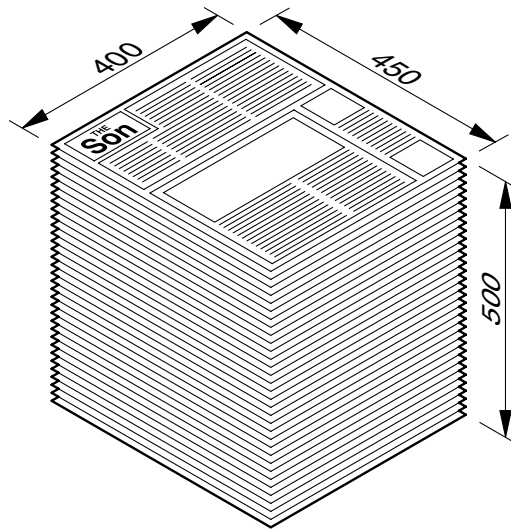

Fig. 9
- hold securely up to 50 newspapers (details given in Fig. 9);